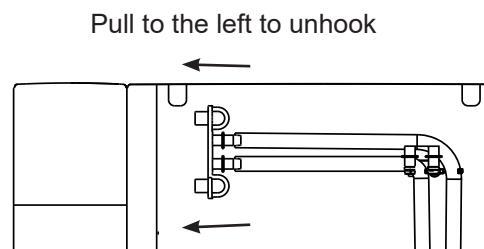

Figure 4
4. When the 'Cleaning' indicator light turns off, drain the Opal. Unhook the top of the drain hoses at the back of the unit. See Figure 4.